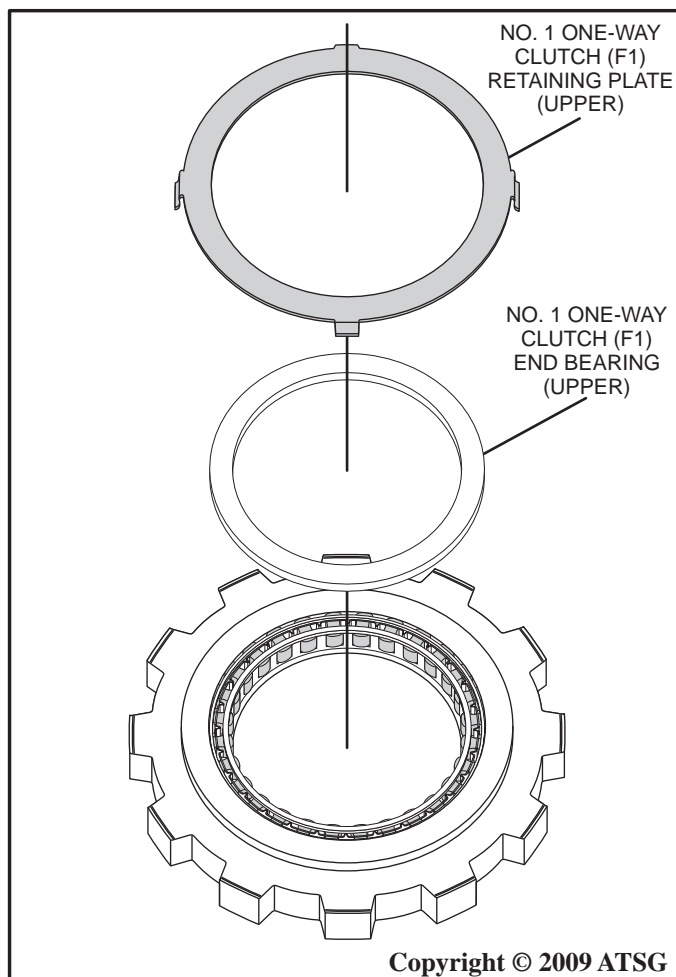

Figure 119
7. Install the No. 1 one-way clutch (F1) upper end bearing as shown in Figure 119.
8. Install the No. 1 one-way clutch (F1) retaining plate and then snap it into place as shown in Figure 119.